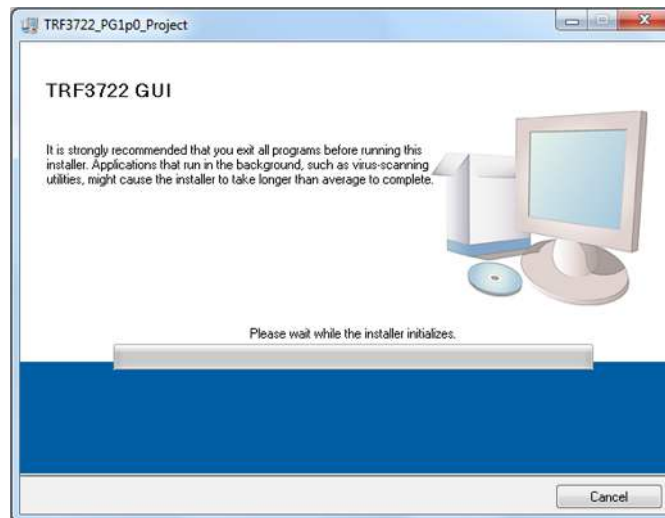

Figure 2. GUI Installer Initialization
3. The window in Figure 2 appears.